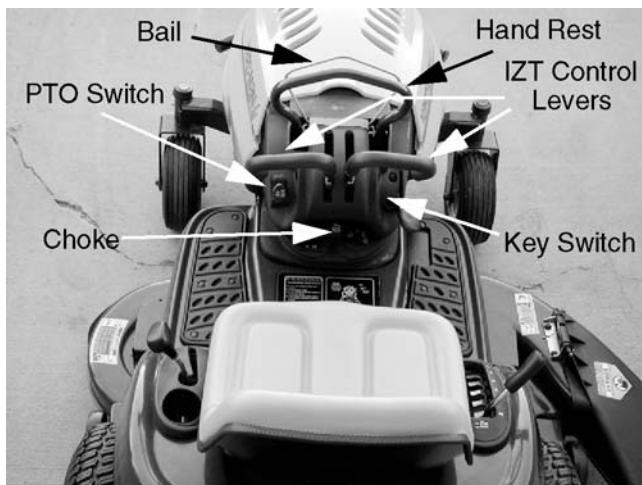

Figure 11-4
- IZT Control levers at the top of the dash panel. See Figure 11-4.